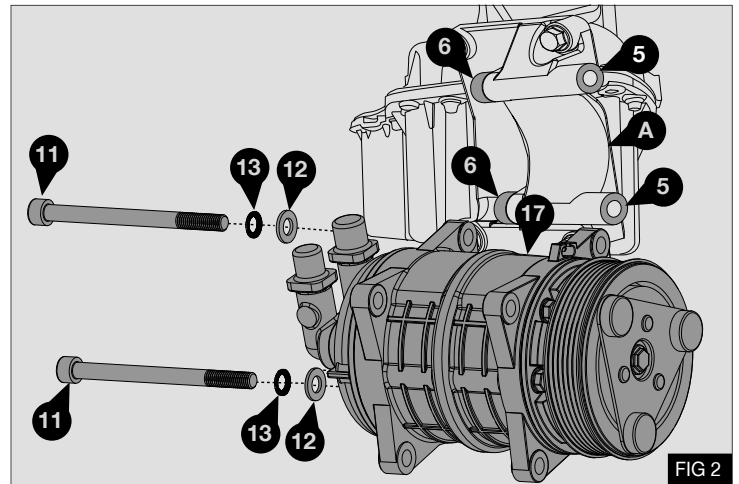

FIG 2
- Mount a compatible compressor ⑰ specified on page 3 to the original manufacturers mount bracket ①, using 2 x 8.3 mm Spacers ⑥ between the rear ears of the compressor and the back mounting face of the mount bracket ①, 2 x 1.6 mm Spacers ⑤ between the front ears of the compressor and the front mounting face of the mounting bracket ①, 2 x M10 x 130 bolts ⑪, 2 x flat washers ⑫ and 2 x Schnorr safety washers ⑬ - Fig 2